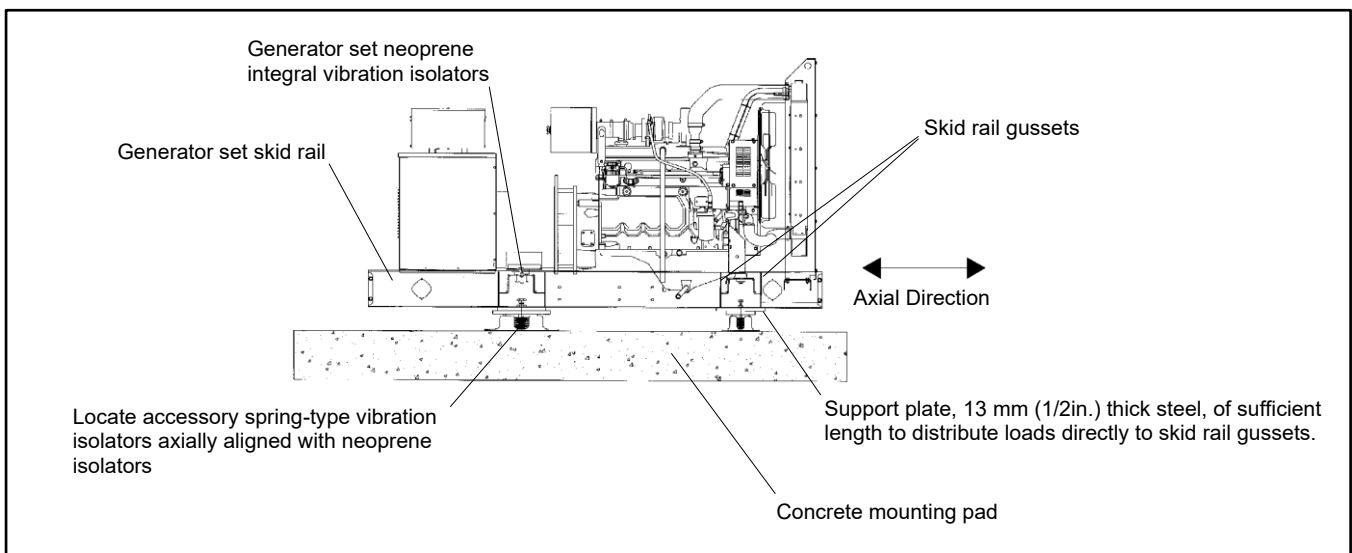

Figure 24 Accessory Vibration Mount Location
- The structural engineer should consider high static deflection spring-type isolators installed under the skid that equal the number of elastomeric isolators, are in line front-to-back with the existing elastomeric isolators, and are supported by additional installed plates, as required. See Figure 24.